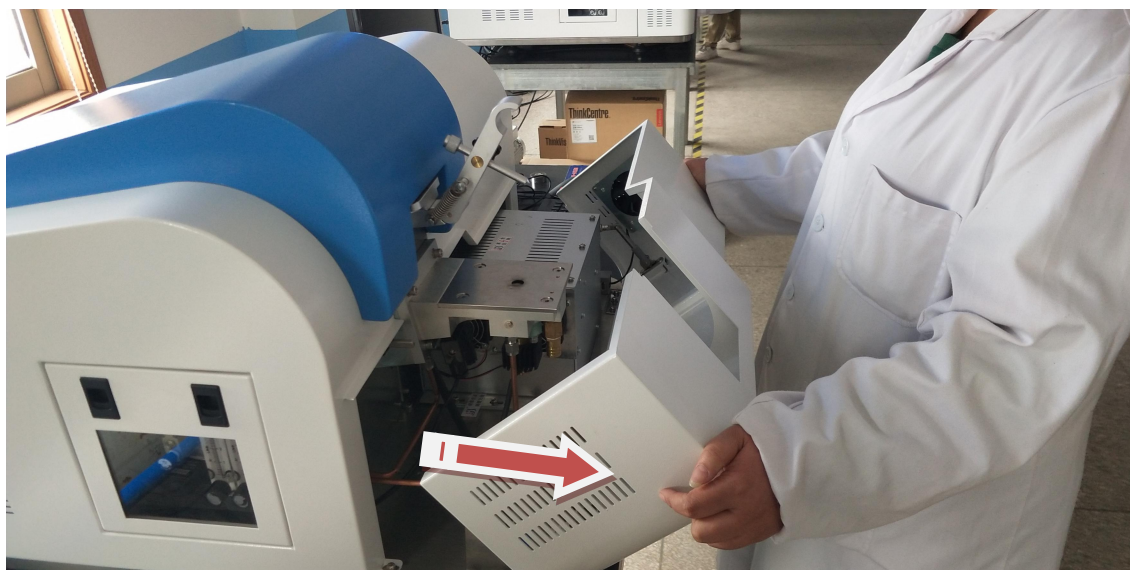

Figure 3-9 Front door of the machine
Step 3 Pull open the front cover of the machine, as shown in Figure 3-9: